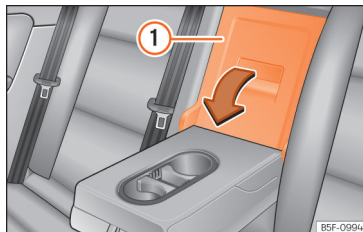

Fig. 175 On the rear seat backrest: opening the tailboard.
- Pull the release lever in the direction of the arrow and push the tailboard cover »» Fig. 175
- ① down and forwards.